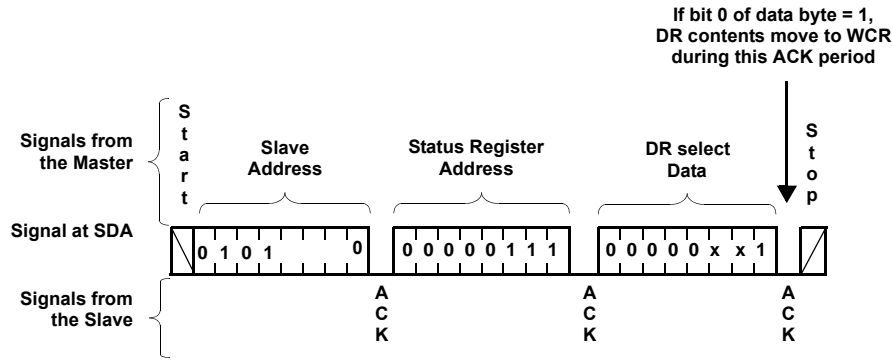

FIGURE 6. STATUS REGISTER WRITE (USES STANDARD BYTE WRITE SEQUENCE TO SET UP ACCESS TO A DATA REGISTER)
- Load the status register (using a write command) to select the row.** (See Figure 6.)